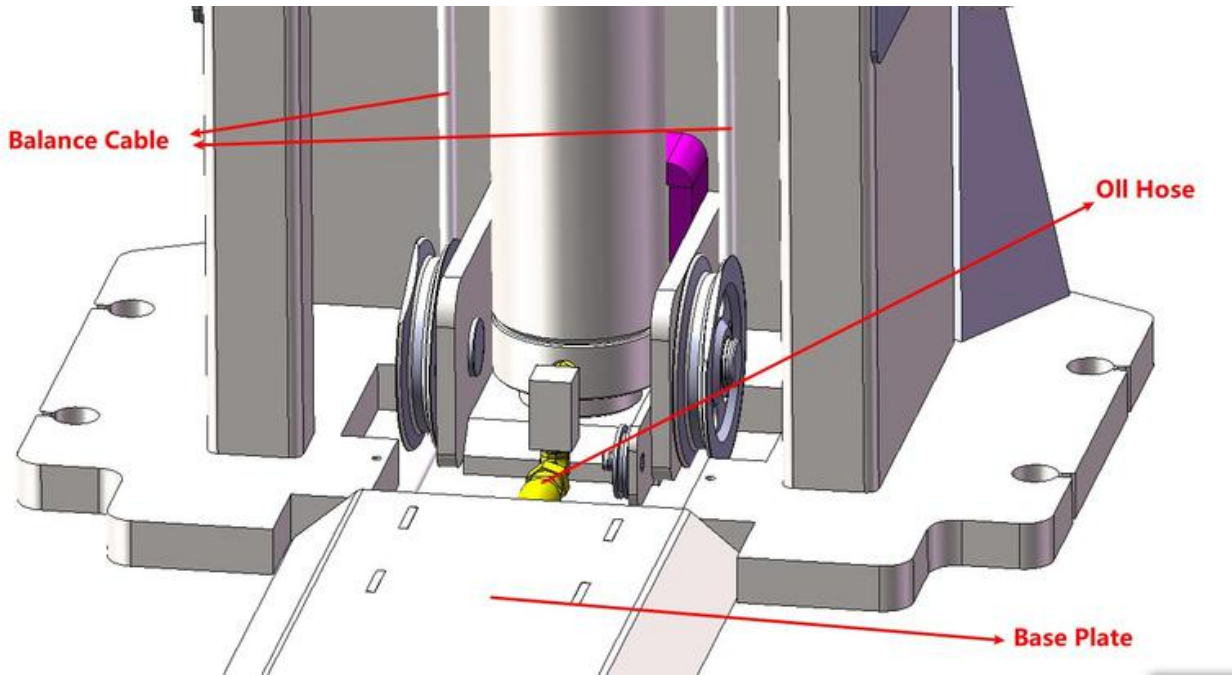

**Fig 13**
**Step 9: Install Power Unit** Install power unit & motor mounting plate on the main column with screws. Install Power unit, truck adapter holder and motor mounting plate. (Fig 13).